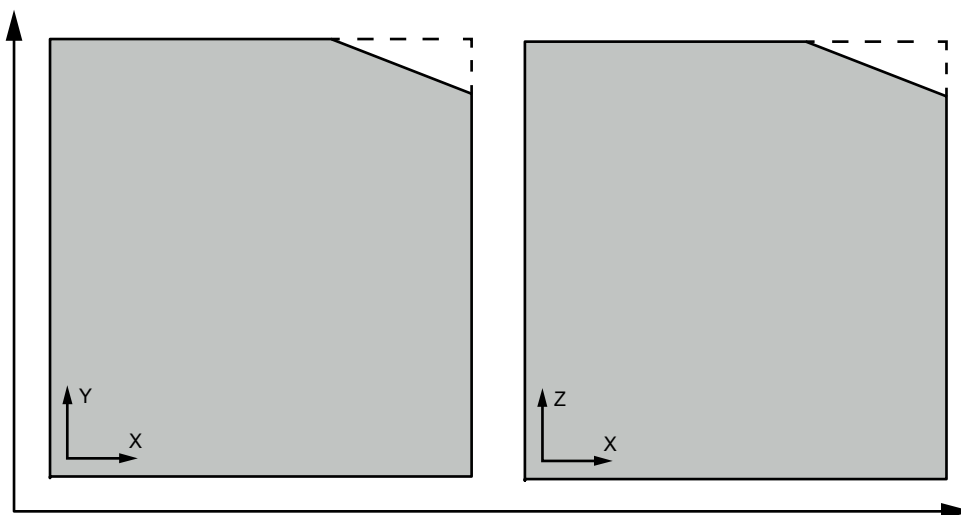

Figure 1.12 Films cut and marked with the coordinate system
- 2 Cut the corner of each film, and carefully mark the orientation of each film, see Figure 1.12.